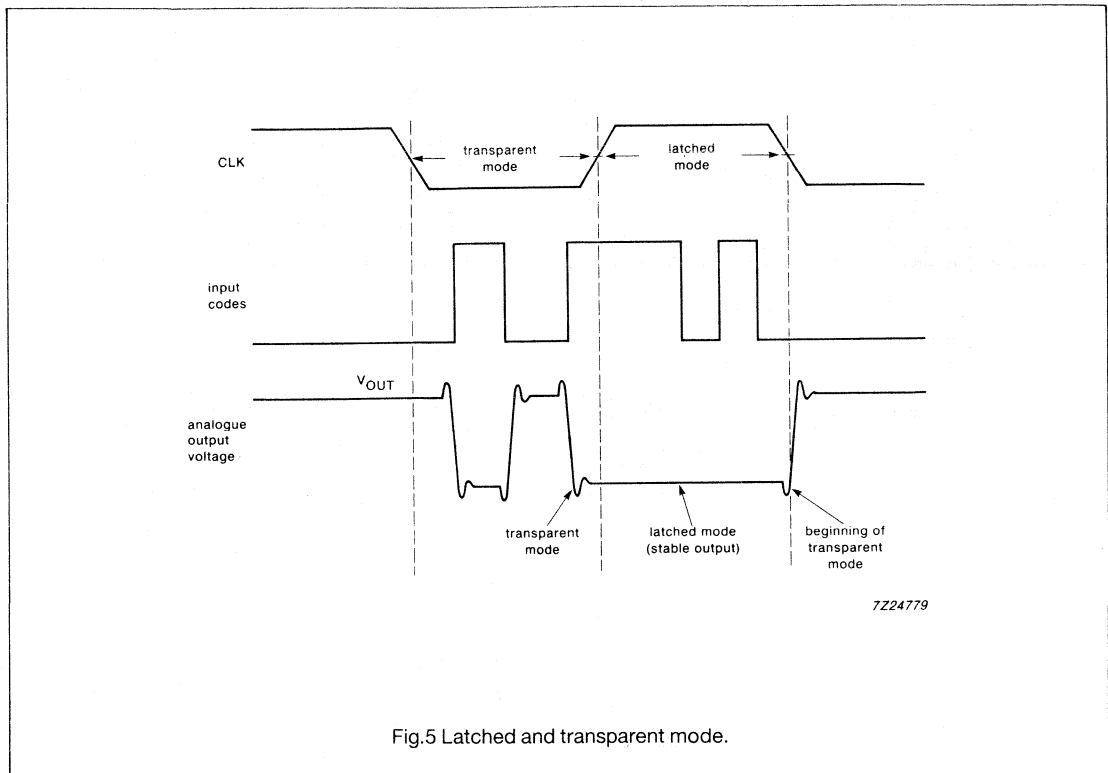

Fig.5 Latched and transparent mode.
4. The worst case characteristics are obtained at the transition from input code 0 to 255 and if an external load impedance greater than $75\ \Omega$ is connected between V_{OUT} or $\overline{V_{OUT}}$ and V_{CCA} . The specified values have been measured with an active probe between V_{OUT} and AGND. No further load impedance between V_{OUT} and AGND has been applied. All input data are latched at the rising-edge of the clock. The output voltage remains stable (independent of input data variations) during the high level of the clock (CLK = HIGH). During LOW-to-HIGH transition of the clock (CLK = LOW), the DAC operates in the transparent mode (input data will be directly transferred to their corresponding analog output voltages, see Fig.5).
Note to Fig.5